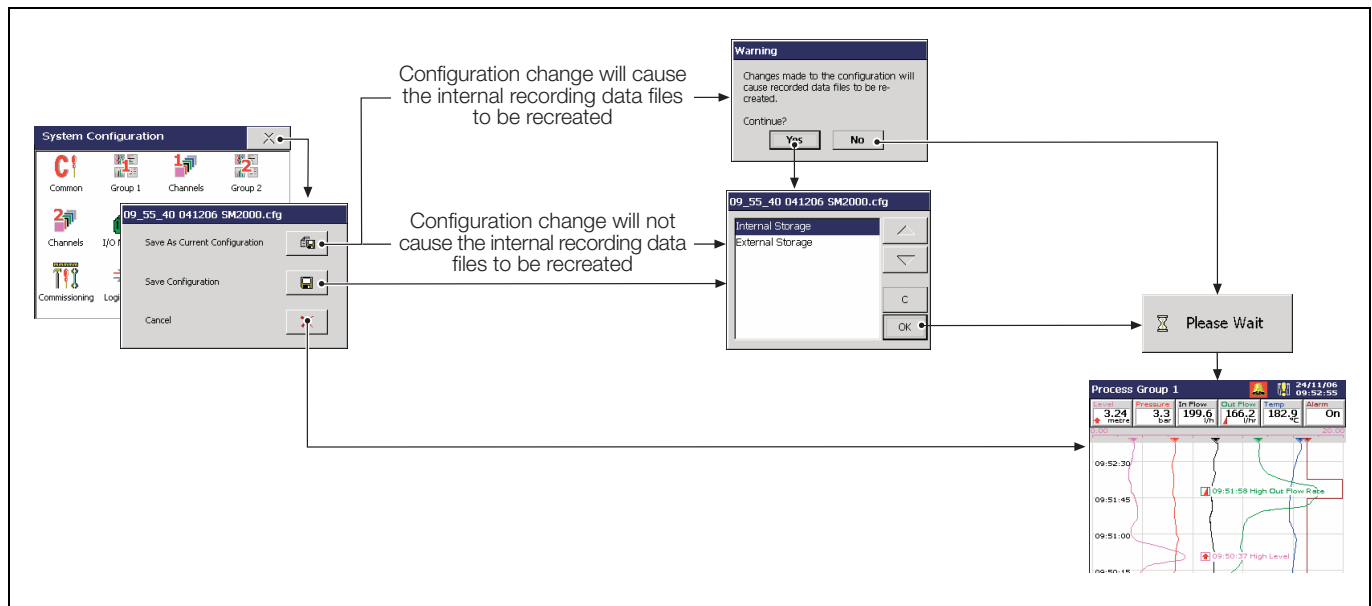

Fig. 4.6 Exiting Configuration Mode
- Changes to the date and time are effective immediately upon selecting 'OK' in the dialog box above. Selecting 'Cancel' upon exiting Configuration Mode (see Fig. 4.6, page 51) **does not** reset the clock to its previous setting. Select 'Cancel' in the dialog box above to exit date and time setup without saving changes.
Note. Changes to daylight saving are effective immediately a method is selected. However, if 'Cancel' is selected upon exiting Configuration Mode (see Fig. 4.6, page 51), the last saved daylight saving settings are restored.